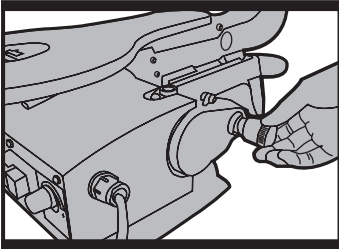
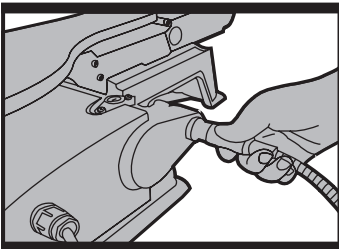
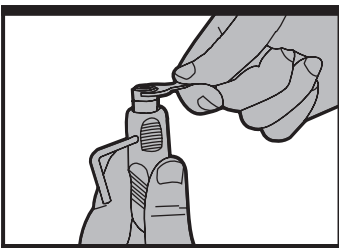
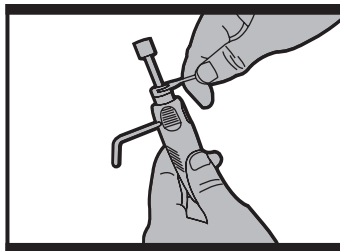

Fig.H1
Fig.H2
Fig.H3
Fig.H4
6. Installing the flexible drive shaft (see Fig.H1—Fig.H4)
Remove the cover from flexible shaft drive aperture. **(Fig.H1 & Fig.H2)**
Insert the spindle lock (g) into the hole situated in the handle of the flexible shaft. Turn the collet nut until the spindle lock engages and prevents the shaft rotating. **(See Fig.H3)**. Insert the required accessory and tighten the collet with the wrench provided. **(See Fig.H4)**